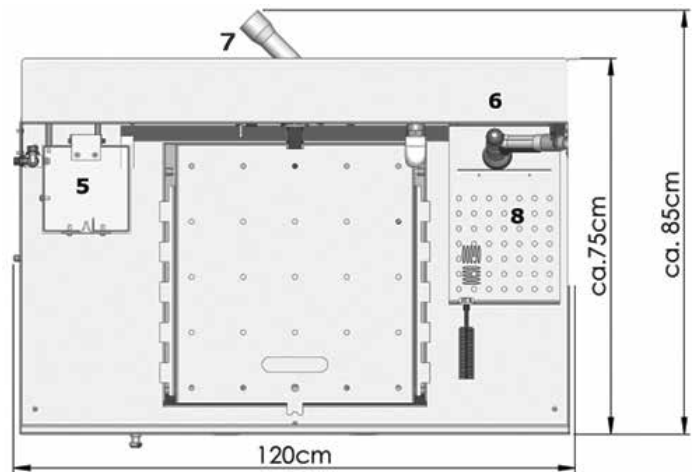

Fig. 2
- Clean tools at the brush cleaning station (station optional = accessory) (8) Fig. 2, 7